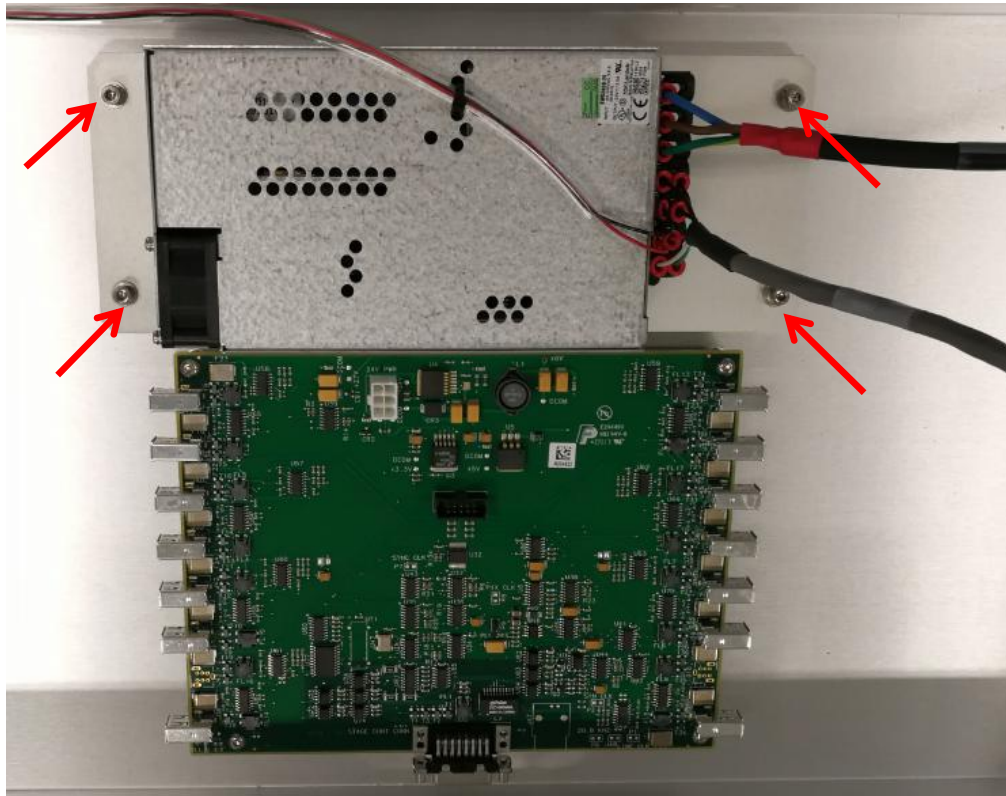

Figure 11 Trigger Board Power Supply Adapter removal
13. Loosen 4 x Screws to remove Trigger Board Power Supply Adapter as below Figure 11.